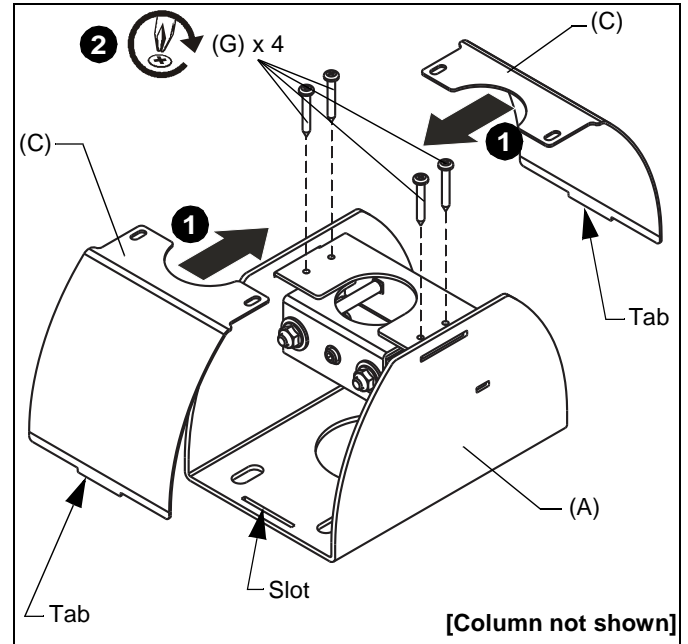

Figure 5
1. Install two covers (C) onto base, inserting tabs on cover into slots at each end of base (A), and lining up the fastener holes in covers with holes in base. (See Figure 5)
2. Fasten covers into place using four #10 x 1/2" self-tapping Phillips screws (G). (See Figure 5)